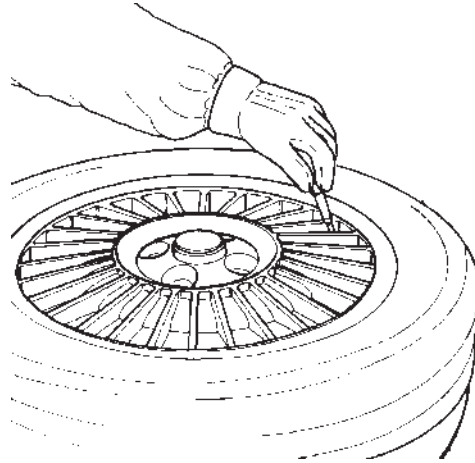

Fig. 12
A. Remove all wheel-weights from the rim. Remove the valve stem or valve stem core and deflate the tire (Fig. 12).